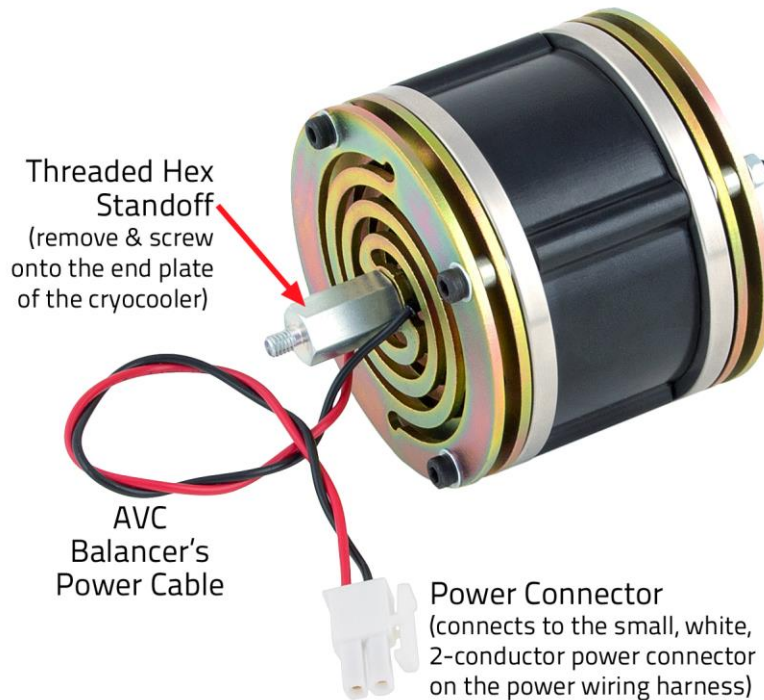

Figure 4. AVC Balancer
1. Unscrew and remove the hex standoff from the balancer (figure 4).
- **AVC Balancer Power Connector** – A small, two-conductor white plastic connector that connects to the power connector on the AVC balancer's power cable (figure 4).